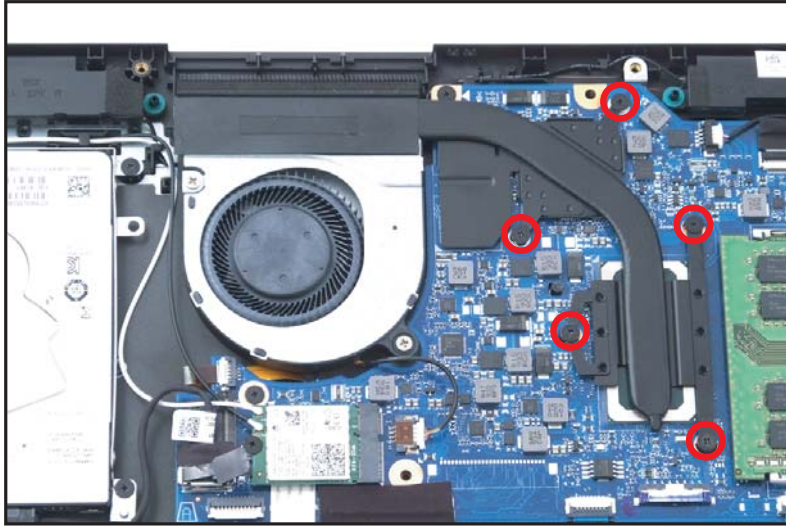

Figure 1-111. Replacing the Heatsink
4. Install and secure five (5) screws to the heatsink (Figure 1-111). Ensure the heatsink is properly aligned and seated.